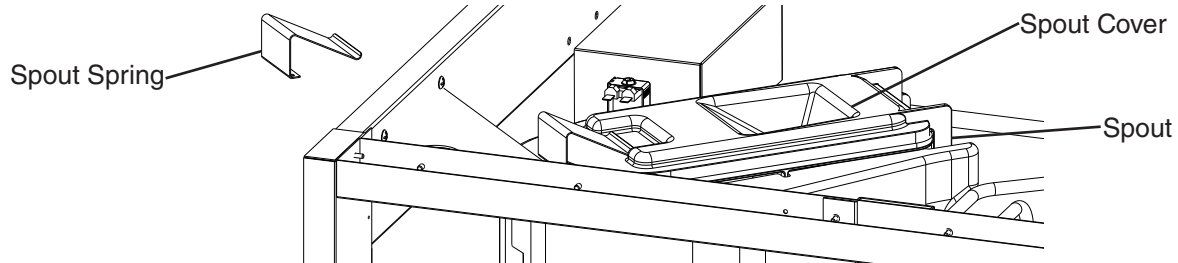

Fig. 15
- 3) Remove the spout spring from the spout. See Fig. 15.